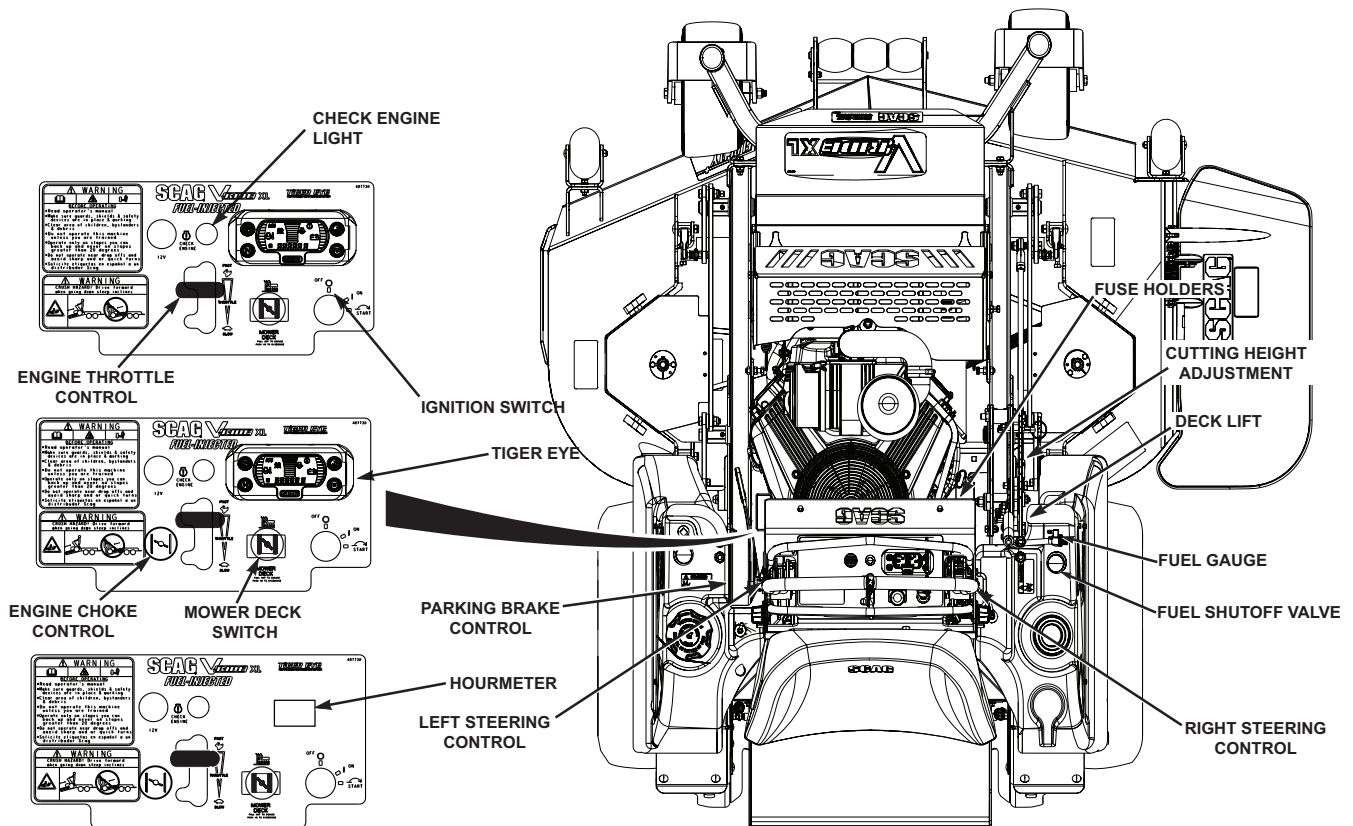

Figure 4-2. Controls and Instruments
1. **Ignition Switch (Figure 4-2).** For electric start models, the ignition switch is used to start the engine and has three positions; OFF, ON, and START.
2. **Mower Deck Switch (Figure 4-2).** Use to engage and disengage the mower drive system. Pulling up on the switch will engage the deck drive. Pushing down on the switch will disengage the deck drive.
3. **Engine Choke Control (Figure 4-2).** Use to start a cold engine.
4. **Engine Throttle Control (Figure 4-2).** Use to control the engine speed. Pushing the lever forward increases engine speed. Pulling the lever back decreases engine speed. Full back position is the IDLE position. Full forward is the cutting position.
5. **Check Engine Light (Figure 4-2).** Indicates the operation of the engine sensors on the Fuel Injection Engines (EFI). If a problem occurs with a sensor on the engine, the light will flash a code. See your Authorized Scag Power Equipment Dealer for diagnosis and repair.
6. **Left Steering Control (Figure 4-2).** Use to control the mower's left wheel when traveling forward or reverse. See Section 4.5 for further details regarding the mower's travel controls.
7. **Right Steering Control (Figure 4-2).** Use to control the mower's right wheel when traveling forward or reverse. See Section 4.5 for further details regarding the mower's travel controls.
8. **Parking Brake Control (Figure 4-2).** Use to engage and disengage the parking brakes and lock the steering handles in neutral. Pull the lever back to engage the parking brakes. Push the lever forward to disengage the parking brakes.
9. **Deck Lift Lever (Figure 4-2).** Use to raise and lower the cutter deck.
10. **Cutting Height Adjustment (Figure 4-2).** Use to set the cutter deck at the desired cutting height.
11. **Fuel Tank Gauge (Figure 4-2).** Indicates the amount of fuel in the fuel tank.
12. **Fuse Holders (Figure 4-2).** Two 20-amp fuses protect the mower's electrical system. To replace fuses, pull fuse out of the socket and install a new fuse.
- 13. Hourmeter (Figure 4-2) SVR11-32/36A Only.** Indicates the number of hours the engine has been operated. It operates whenever the engine is running. Has preset maintenance reminders for engine and hydraulic system oil changes. Will start flashing scheduled maintenance 2 hours before preset time and continue flashing until 2 hours after. Automatically resets
- 14. Fuel Shutoff Valve (Figure 4-2).** Located on top of the fuel tanks. Use to shut off fuel supply to the engine. Rotate the valve counter clockwise to supply fuel from the tank to the engine. Rotate the valve clockwise to shut off the fuel supply to the engine.